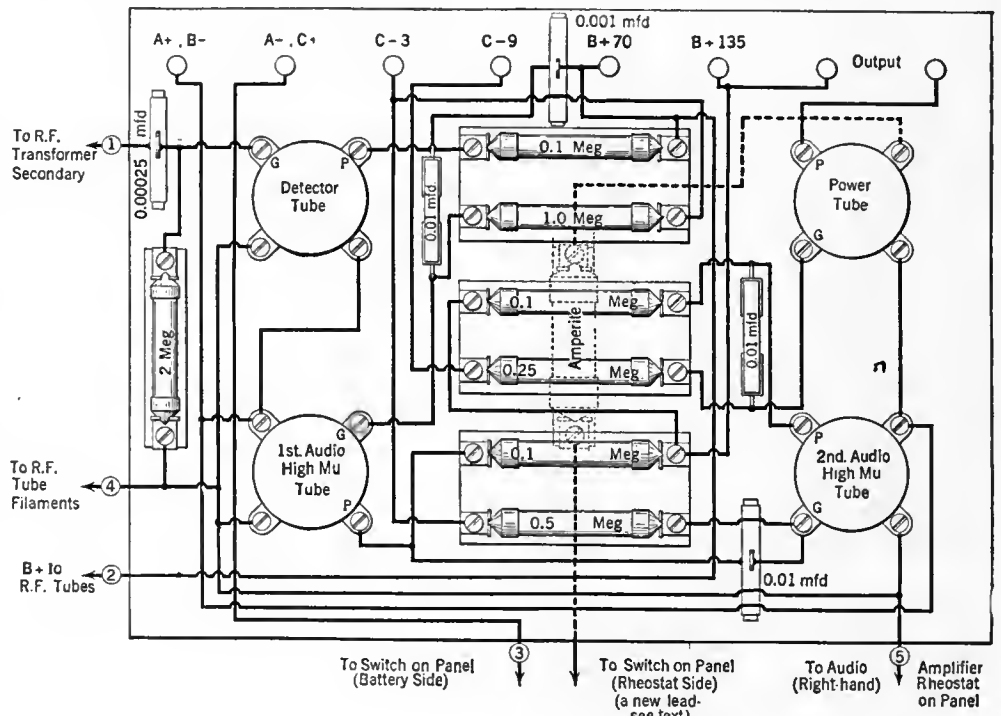
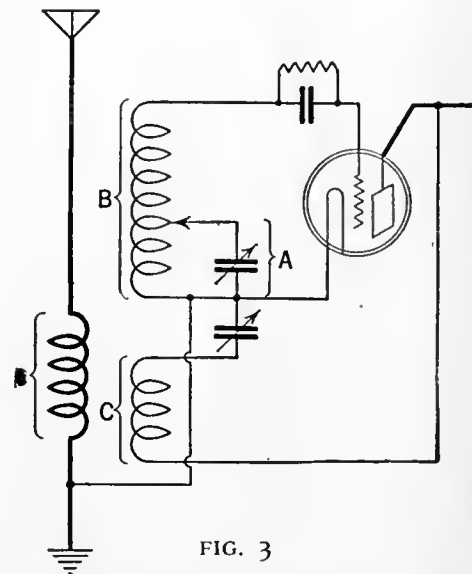

FIG. 5
FIG. 3
This is the schematic diagram of the resistance-coupled audio amplifier and detector circuits shown in Fig 5. The input connects to the output of the second r. f. stage in the receiver
Figs. 3, 4, 5, 6, and 7 show the construction, wiring diagram, and method of installation of such a resistance-coupled amplifier. Four tube sockets, three double resistor mountings, a single detector grid resistor mounting, and binding posts are mounted on the top of a $5\frac{1}{4}'' \times 7\frac{3}{4}'' \times \frac{3}{8}''$ bakelite panel. On the under side of this panel are mounted an Amperite for controlling the filament current of the power tube and the several different fixed condensers, the capacities of which are shown in Figs. 5 and 6. Although four plain UX sockets are shown in the model illustrated, it is preferable to use one of the spring suspended sockets for the detector tube.
The wiring connections for the output device. The posts marked P and B plus connect to the set, as indicated in Fig. 3. This output device may be used with any receiver. Mayolian, General Radio, and National make complete output units contained in a single metal case
The wires to be snipped when removing the amplifier from the original Model 20 Atwater Kent Receiver to substitute a resistance-coupled amplifier, are here indicated. Study this picture in conjunction with Fig. 5, whereon the numbered wires correspond to those numbered in this picture
AS PREVIOUSLY mentioned, it is well with any type of output tube to employ an output device for keeping direct current out of the speaker circuit. Direct current in the speaker cord, although perhaps only fifteen or twenty milliamperes in magnitude, is quite capable of starting a fire, especially where long speaker cords of poorly insulated tinsel are employed. Fig. 3 shows how to connect the output device illustrated in Fig. 8, and the necessary batteries, to the resistance-coupled amplifier.
The diameter of the coils is 3 inches for whatever frequency band the coil is designed to cover. Figs. 3 and 4 show the number of turns to be used for each frequency band. Three coils were used by the author to cover the amateur bands.
Of the Eltz five-tube short-wave super-heterodyne is shown in this illustration. The coils, starting at the lower one, are: (1) A-B; (2) C; (3) D. These letters may be explained by reference to Fig. 3 on this page. The flexible lead for tapping A-B may be clearly discerned
to Fig. 3, it will be also observed that three coils are used. The coil in the plate circuit of the tube preceding the detector and the coil in the grid circuit of the detector comprise the tuning or filter circuit. The coil in the plate circuit of the detector tube is the feed-back coil by means of which the beat note of 1000 cycles is created in the second detector tube.